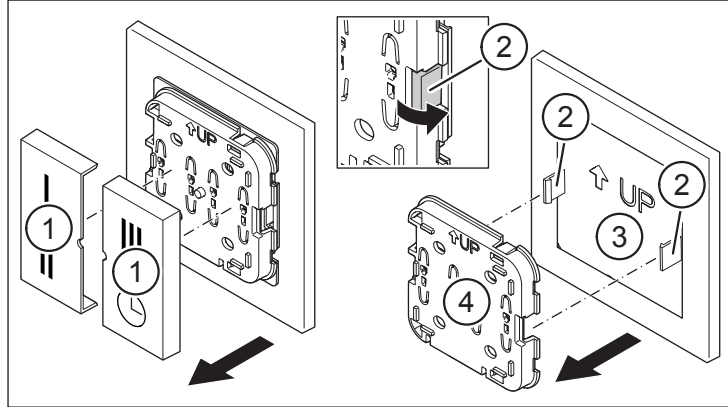

Fig. 2: Removing the buttons and electronic unit
- ▶ Remove the two buttons (item 1 in Fig. 2).
- ▶ Push the two latches (item 2 in Fig. 2) outwards and remove the electronic unit (item 4 in Fig. 2) from the mounting plate (item 3 in Fig. 2).
- ▶ Remove the two buttons (item 1 in Fig. 2) from the wireless pushbutton switch.